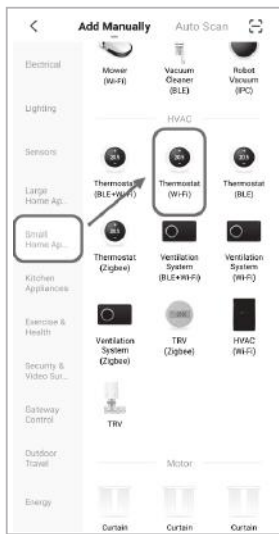

Fig. 4
- When the thermostat is off, press and hold the “▽” until the thermostat screen flashes quickly and displays the “📶” icon, and then operate according to the following figures (Fig. 4-Fig. 8)